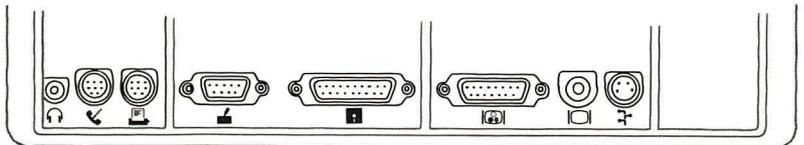

Figure 1-1
- Figure 1-1 Connecting the Apple 3.5 Drive to an Apple IIgs 1